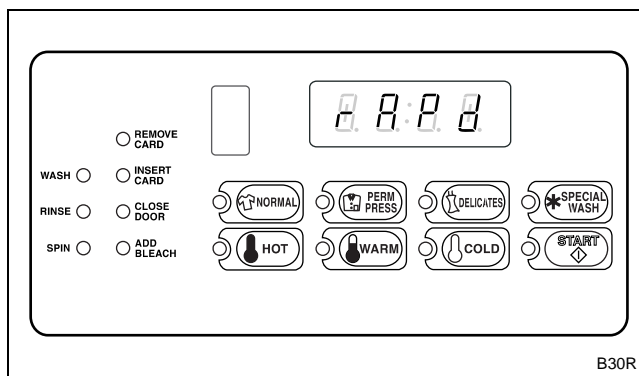

Figure 2
4. The VFD display will show “rAPd”. Refer to *Figure 2*.